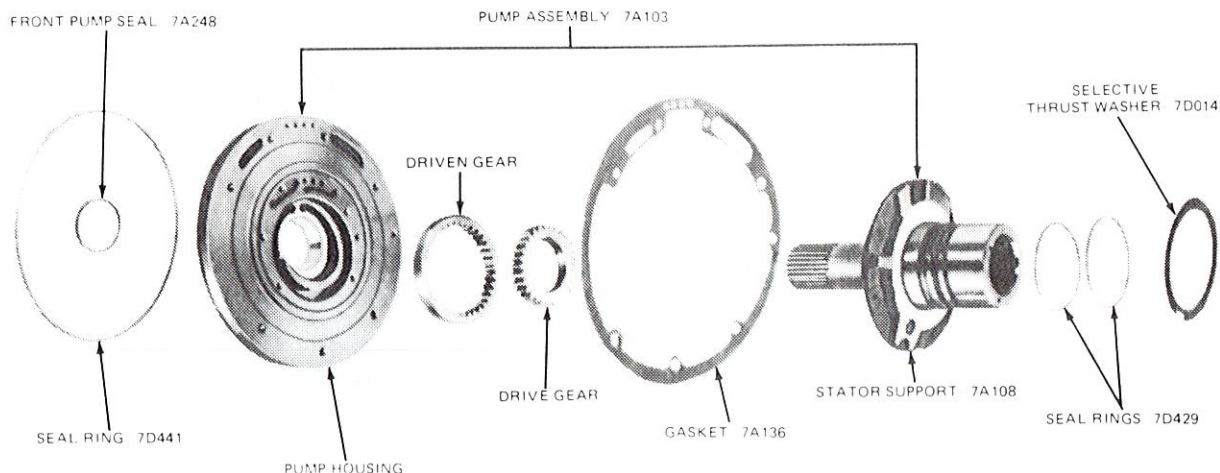

FIG. 33 Front Pump Disassembled
- Remove the two seal rings and the selective thrust washer (Fig. 33).